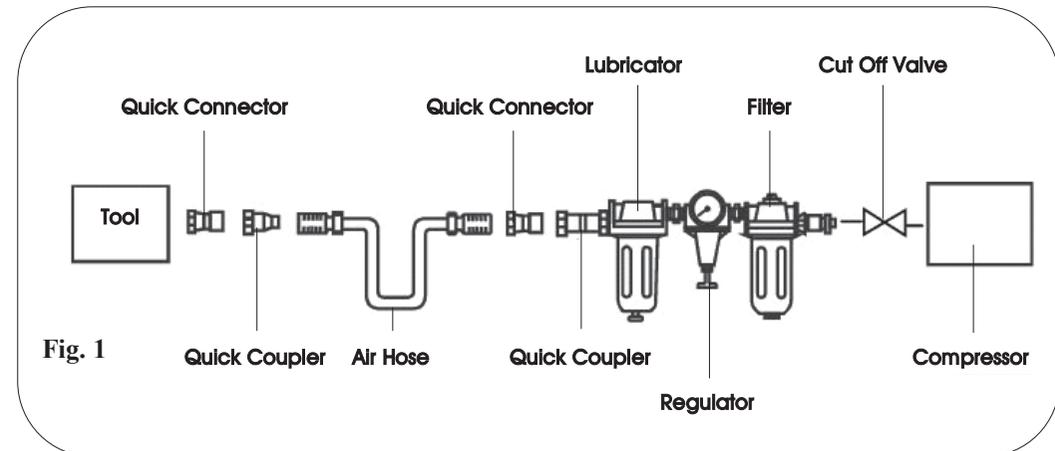

Fig. 1
- An automatic in-line filter-regulator-lubricator is recommended (Fig.1) as it increases tool life and keeps the tool in sustained operation. The in-line lubricator should be regularly checked and filled with air tool oil.
1. Ensure the air drill trigger (3) is not depressed before connecting to the air supply.
5. Recommended hook-up procedure is shown in fig 1.